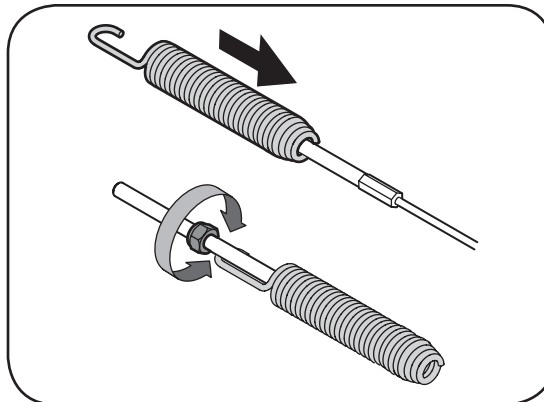

Figure 13
- Loosen the jam nut on the drive control cable and unthread the cable one full turn. See Figure 13.
- Push the cable coupler through the end of the spring to expose the lock nut. See Figure 13.